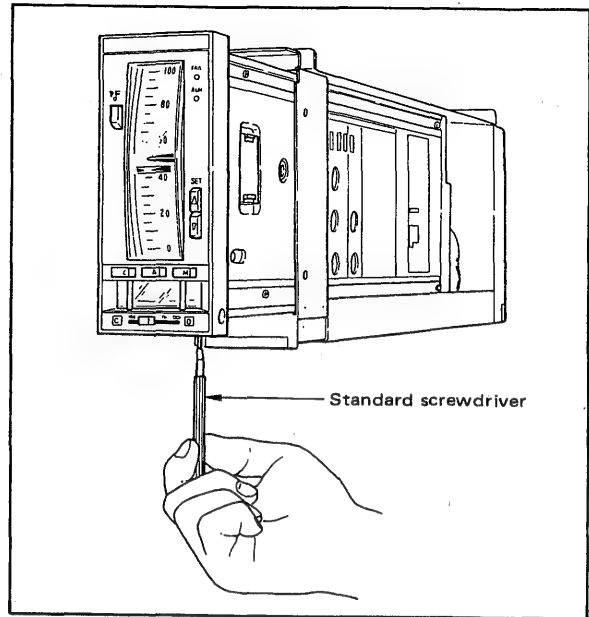

Figure 6-2-4. Zero Adjustment of Output Indicator.
- (3) If the index deviates from the tolerance, rotate the zero-adjustment screw so that the index points to the middle main scale graduation. (See Figure 6-2-4.)
- (4) Change the input signal to 1.0 V, 2.0 V, 4.0 V, and 5.0 V DC, and insure that the output index points to the 0%, 25%, 75%, and 100% points accordingly. The tolerance is $\pm 2.5\%$ of span (1/2 of each scale division).
- (5) If the tolerance is exceeded in (4), return to step (1) and make fine adjustments with the reading to fit within the tolerance.
- (6) Repeat steps (4) and (5) as necessary until the readings at all points are held within the tolerance.